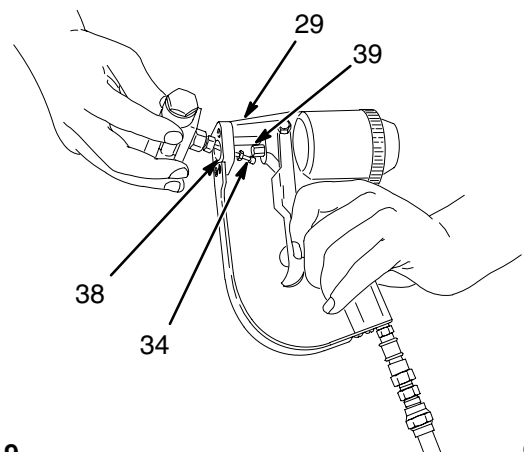

Fig. 9
9. Guide the needle of the nozzle assembly into the front opening (38) of the gun body (29). The socket of the piston rod (39) must face down. Tilt the nozzle assembly up and swing the ball of the needle (34) into the piston rod socket. See Fig. 9.
10. Push the nozzle assembly further into the front opening (38) until the back of the assembly meets the gun body. See Fig. 9.